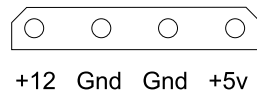

Figure 8. Power Supply Connector J1
7. On the power supply connector J1 (see Figure 8), check the following: